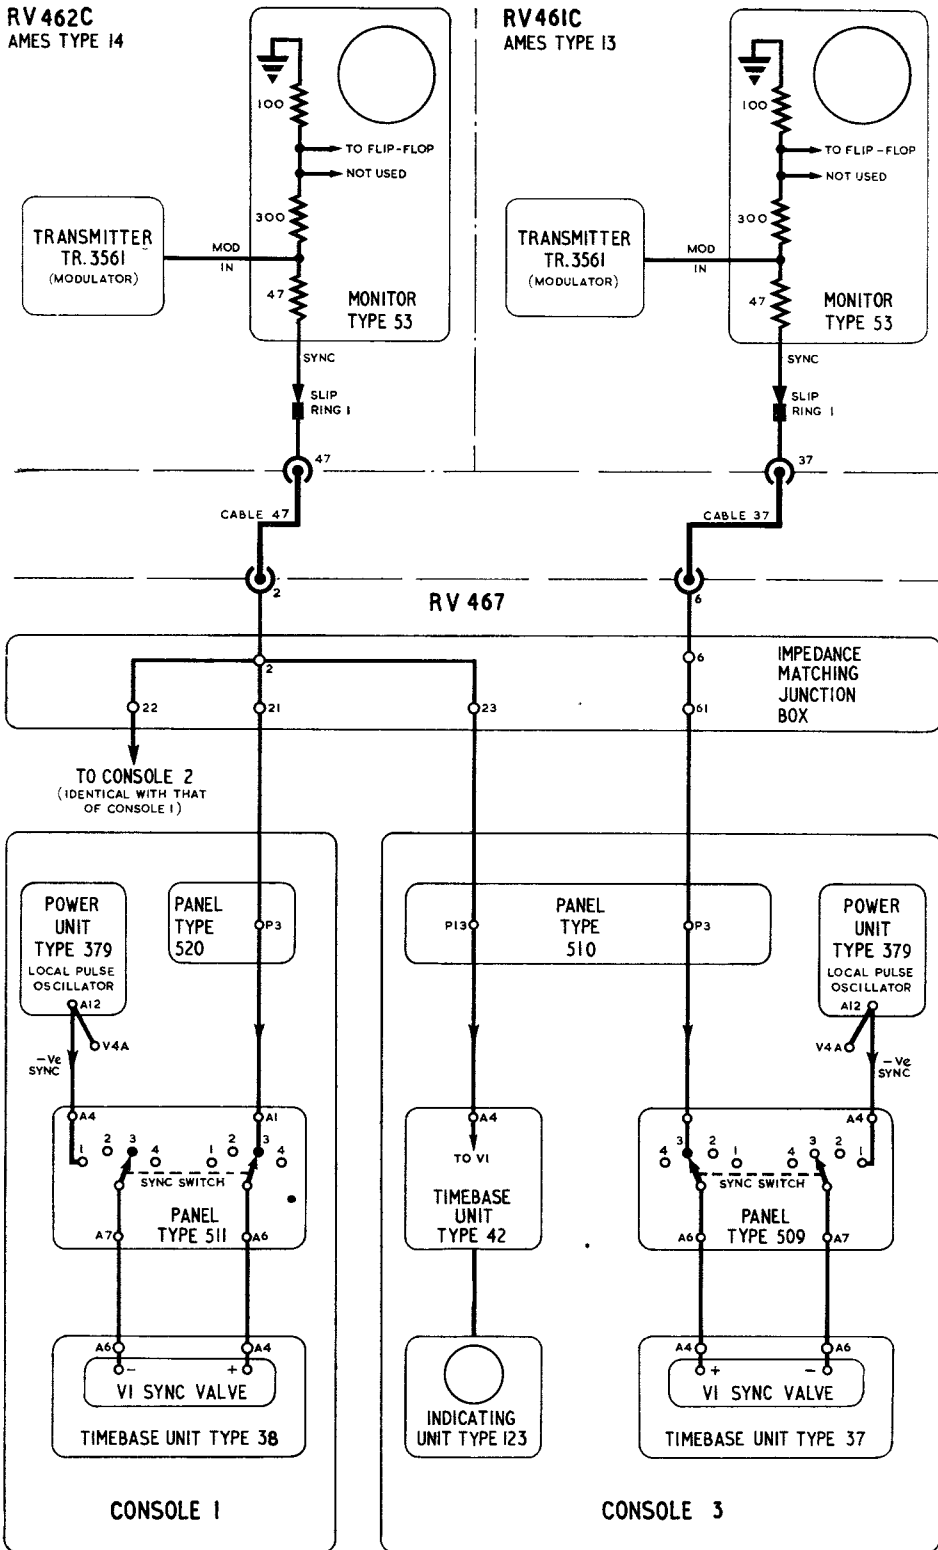

Fig. 37. Sync. pulse chain
**112.** The path taken by the sync. pulse is shown in fig. 37. It should be noted that the local pulse oscillator provides negative sync. pulses when the SYNC. switch of panel Type 511 (or Type 509) is in position 1, labelled L.P.O. This facility is incorporated to allow the consoles to be set up with the transmitter off.